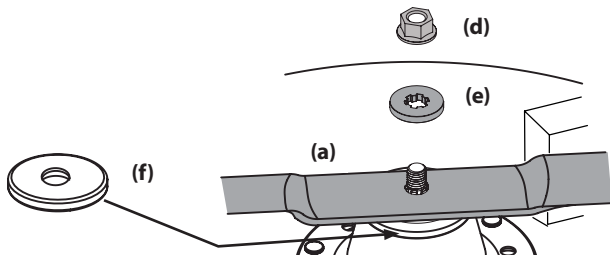

Figure 37
- Remove the flange nut (d) and flat washer (e) securing the blade (a) to the mower (a) and remove the blade (Figure 37).